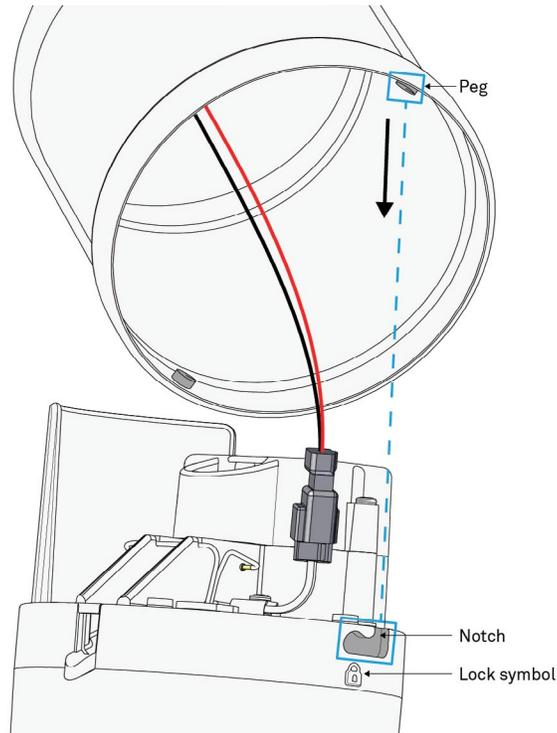
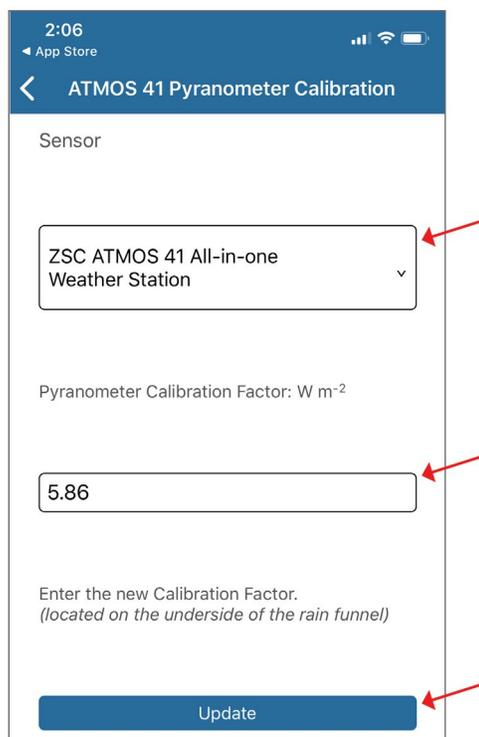

Figure 6. Align new funnel
Figure 17. Enter CAL Factor value
10. Line up the pegs on the inside of the funnel with the notches on the ATMOS 41 (Figure 6).
12. Confirm that the ZSC ATMOS 41 All-in-one Weather Station is the sensor listed (Figure 17).
13. In the text box below the label Pyranometer Calibration Factor :  $W \cdot m^{-2}$  (Figure 17), enter the new pyranometer CAL Factor printed on a label inside the ATMOS 41 replacement funnel (Figure 6).
The new pyronometer CAL Factor is printed on a label inside the ATMOS 41 replacement funnel (Figure 6).